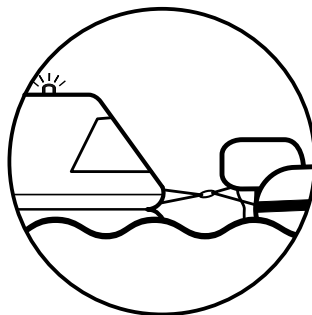

Fig 20 - Towing the raft
7.4.1 Where possible this should be avoided. The liferaft has been tested up to a speed of 3 knots and this speed should never be exceeded. If towing is required then use the towing points on the liferaft (Fig 20).